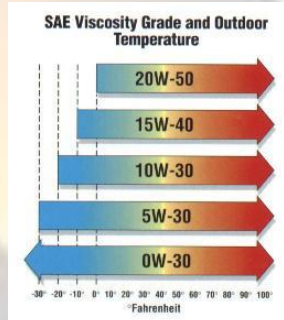

Fig. 1 Viscosity grade vs temperature selection chart
2. Viscosity: Most oils on the shelves today are "Multigrades", which simply means that the oil falls into 2 viscosity grades eg SAE 20w/50, etc). Multigrades were first developed some 60 years ago to avoid the old routine of using a thinner oil in winter and a thicker oil in summer. In a SAE 20W/50 for example the "20W" part (W = winter grade) simply means that the oil must have a certain maximum viscosity or flow at low temperature. The lower the "W" number, the better the oil's low temperature/cold start performance. The "50" on the other hand, means that the oil must fall within certain viscosity limits at 100°C, the latter reflecting more or less the normal operating temperature of the engine. This is a fixed limit and all oils that end in "50" must achieve these limits. Once again the lower the number, the thinner the oil, ie a SAE 40 oil is thinner than a SAE 50 oil at 100°C etc. The vehicle's user handbook will usually specify what viscosity grade is required. A rough guide, as far as operating temperature is concerned, is given in Fig. 1